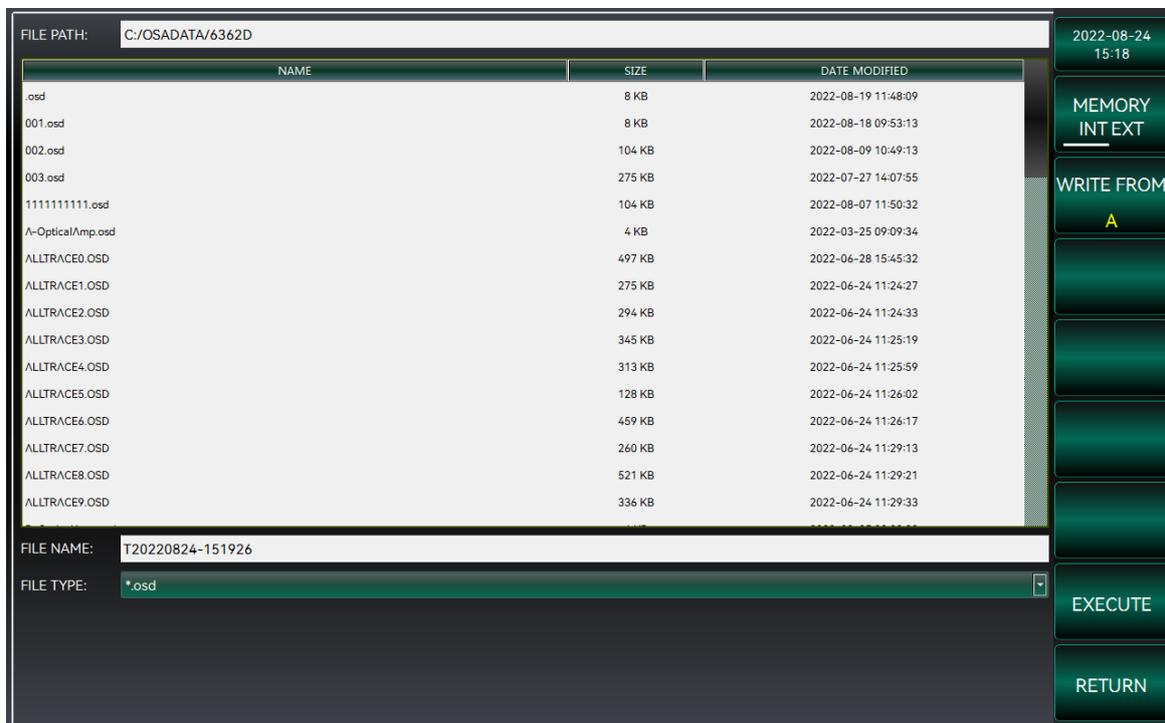

Figure 3-16 File save interface diagram
1. When the [Save] option is selected, the system will enter the file processing interface, as shown in Figure 3-16.